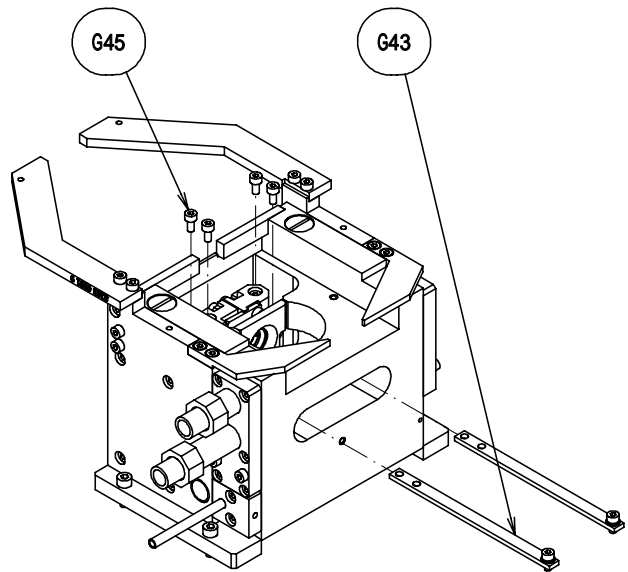

Fig. 21
5. Remove the bolt (G45), and then remove the lead plate (G43) (Fig. 21).